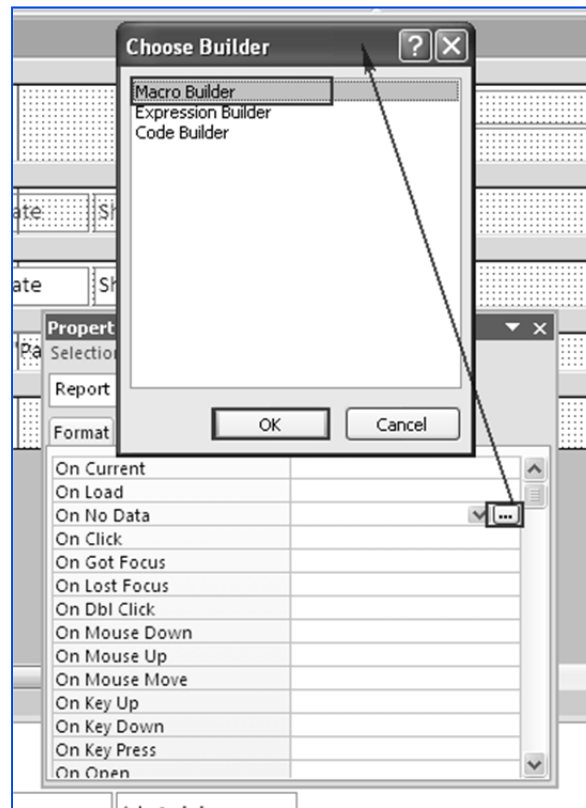

Fig. 2.5.9. Open Macro Builder
3. Select  button of *On No Data* property. Choose *Builder* window appears. Select *Macro Builder* and click *OK* as shown in Fig. 2.5.9.